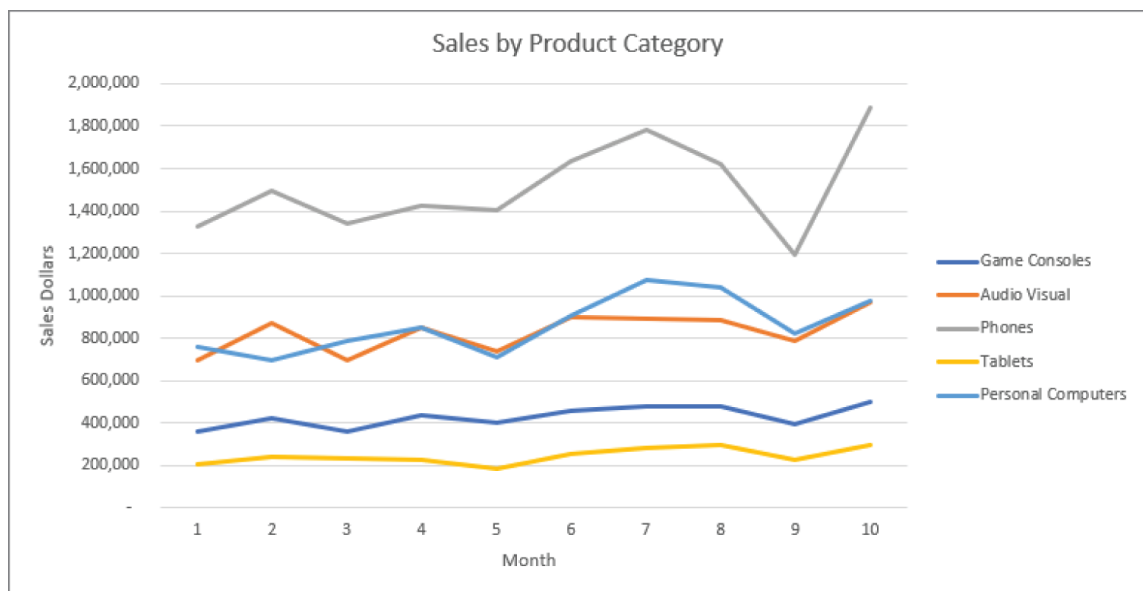

Figure 9.9: The completed line chart
4. On the on-chart Chart Elements tool, add Axis Titles. Change the value axis title to **Sales Dollars** and the category axis title to **Month**. Figure 9.9 shows the completed chart.